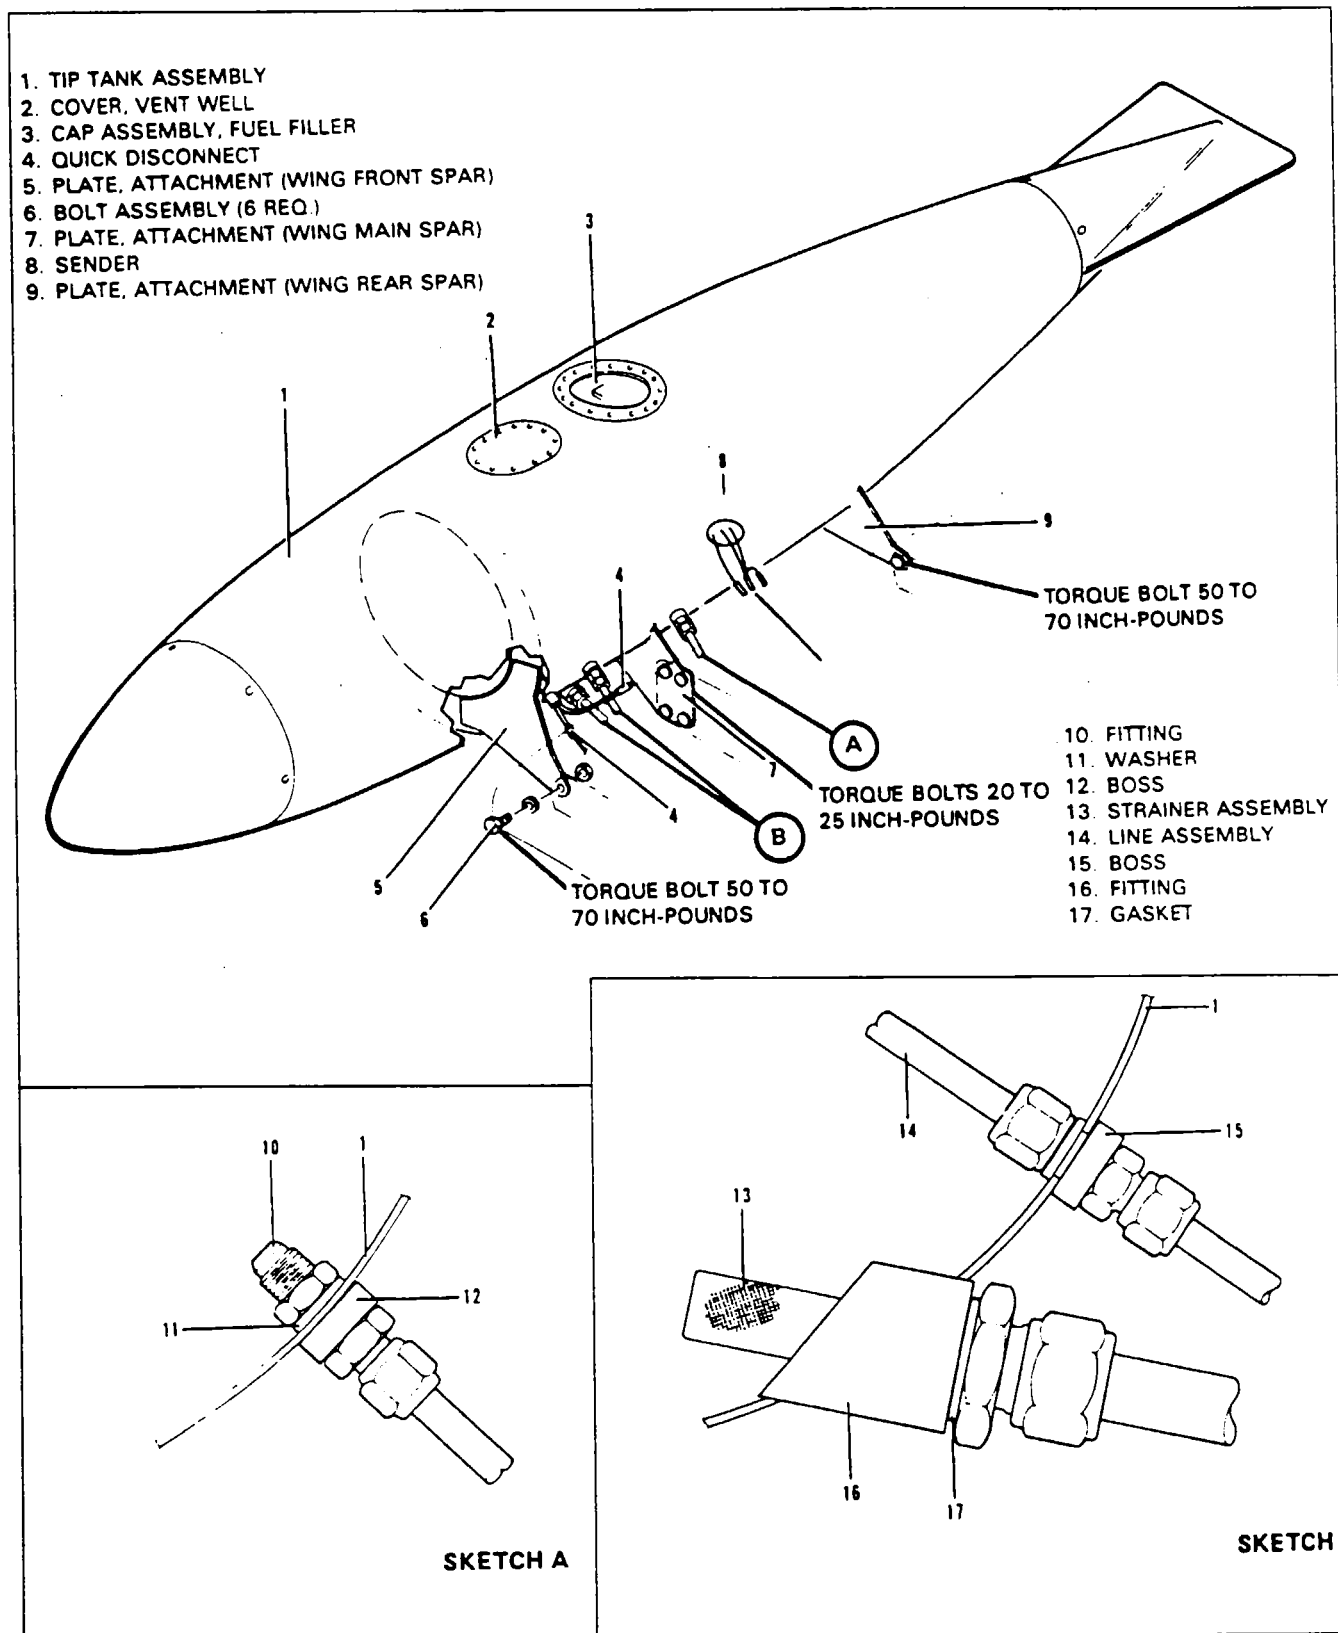

Figure 28-4. Tip Tank Installation
REMOVAL OF WING TIP TANKS. (Refer to Figure 28-4.)
INSTALLATION OF WING TIP TANKS. (Refer to Figure 28-4.)
1. Connect the tank to the wing by installing the six bolts. Refer to Figure 28-4 for bolt torque values.